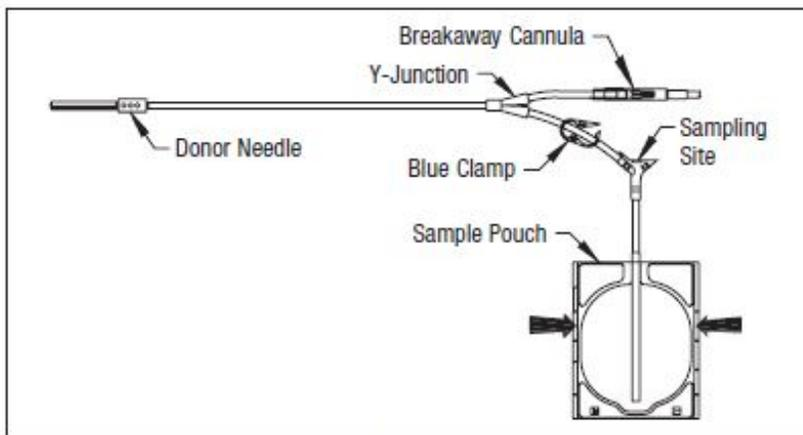

Figure 1
- Do not use the product if the in-line cannula is broken and/or anticoagulant is present in the sample pouch or in the tubing from the in-line cannula to the sample pouch and HighFlo1 needle (see Figure 1). Note that condensation in the empty tubing of the Blood-Pack unit is expected as a result of the sterilization process.
- **If less blood sample volume is required, the flow to the sample pouch may be stopped prior to completely filling the pouch. For example, in order to target a fill volume of approximately 40 mL, fill to the level indicated by the arrows in Figure 1. Ensure the pouch is hanging vertically.**